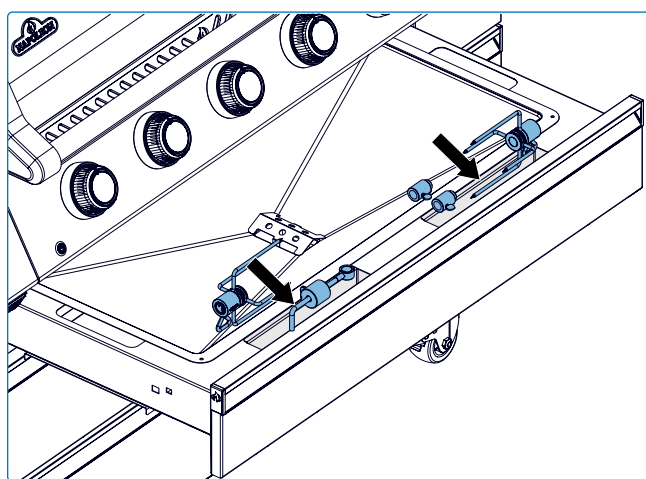
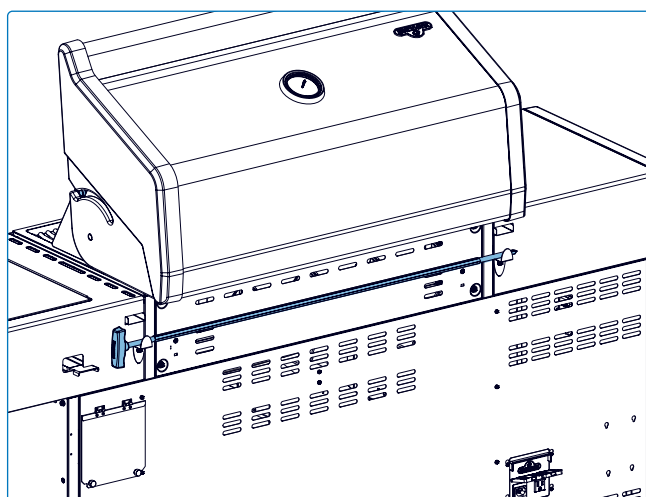

Fig.10
Fig.11
- Store the rotisserie components on the designated clips inside the cart cabinet and the spit rod on the back of the grill when not in use. This keeps them secure, protected from weather exposure, and easy to access for your next cook. Always ensure the parts are clean and dry before storing to prevent corrosion (**Fig. 10 & Fig.11**).